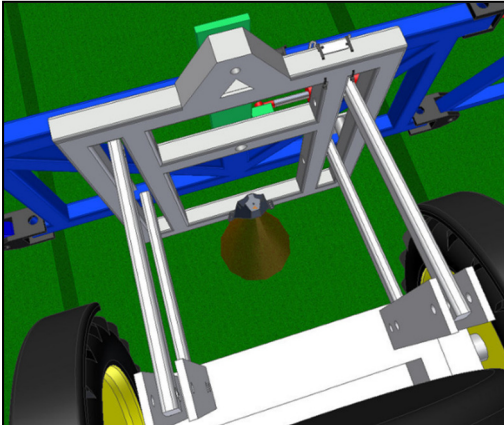

Figure 17: Example Mounting of the Main Lift Bracket
2. There are a variety of ways to mount the main lift bracket on most sprayers. The bracket should position the sensor approximately in the center of the sprayer, forward of the boom. An example of this mounting is illustrated in Figure 17.